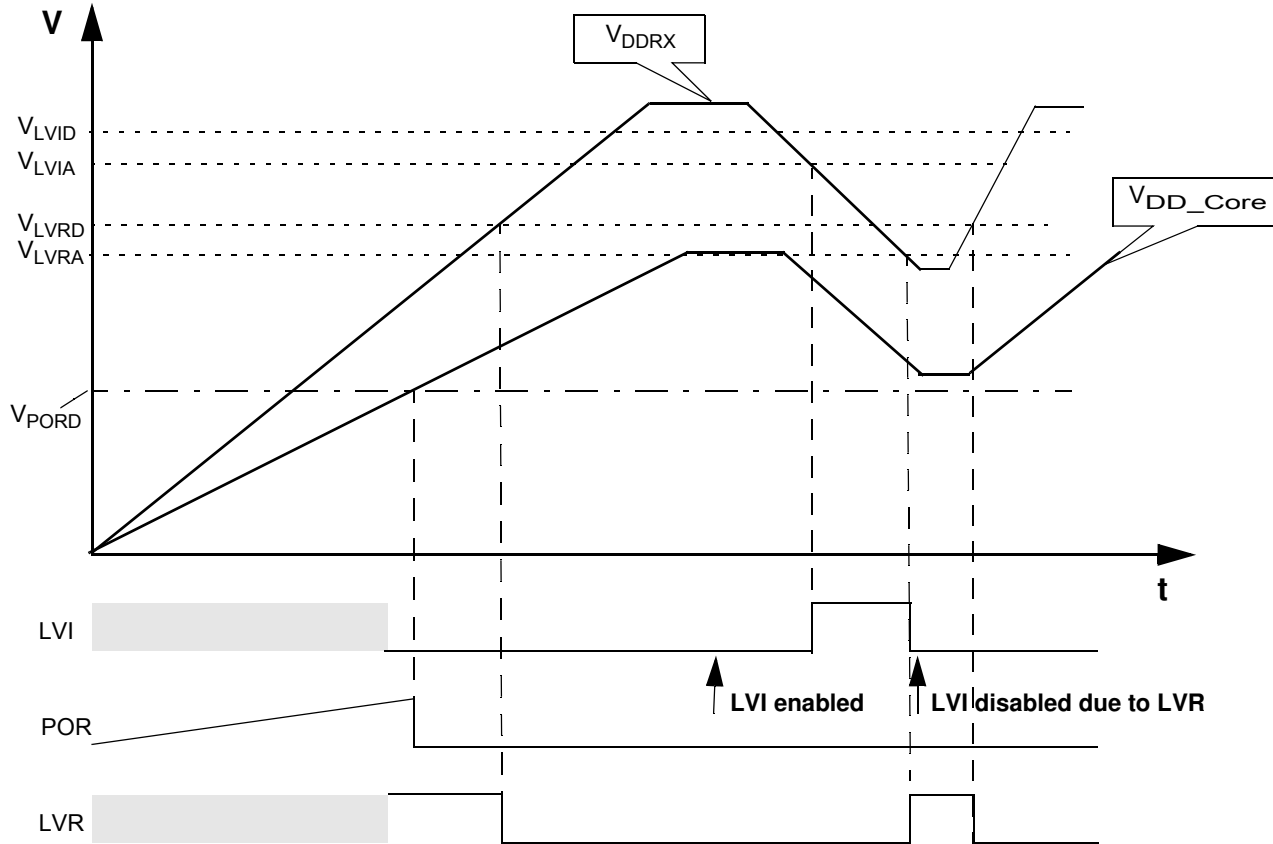

Figure 4. MC9S12I32 - Chip Power-up and Voltage Drops (not scaled)
34. Monitors V_{DDRX} , active only in Full Performance mode. MCU is monitored by the POR in RPM (see Figure 4).